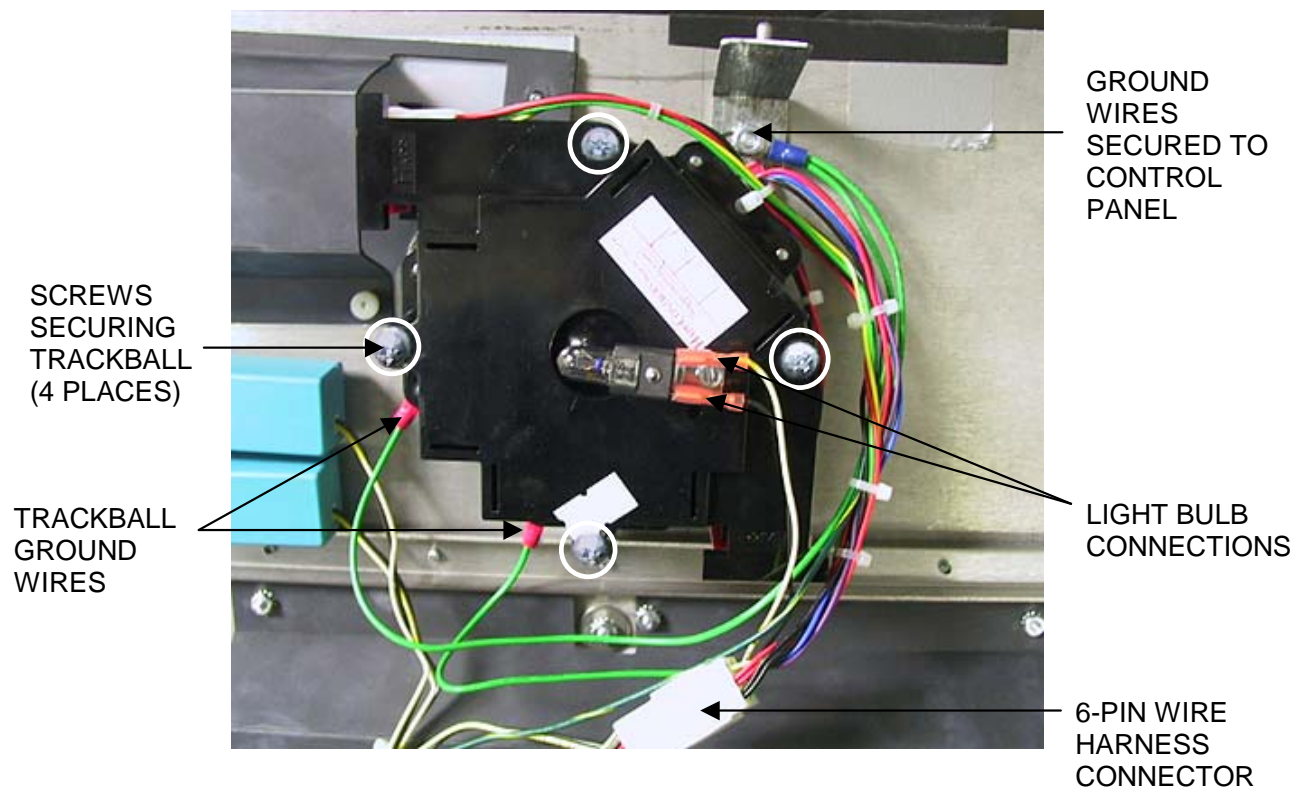

FIGURE 1 - TRACKBALL ASSEMBLY SECURED TO UNDERSIDE OF CONTROL PANEL
3. Remove the 6-pin wire harness connector, as well as the fast-on connectors attached to the trackball's light bulb (if applicable). See Figure 1.
4. Remove the nut securing the ground wire(s) to the control panel. Save the nut to secure the new ground wires. See Figure 1.
1. Place the new trackball assembly over the captive studs on the mounting plate. **NOTE: The trackball assembly is marked with an arrow and "MONITOR" notation to assist with proper positioning. Figure 1 shows the trackball mounted correctly.**
2. Use the 4 existing screws to secure the trackball to the mounting plate's captive nuts. See Figure 1.
3. Reconnect the 6-pin wire harness and the 2 fast-on connectors that power the trackball's light bulb (if applicable). See Figure 1.
4. Secure the ground wires with the existing nut. See Figure 1.